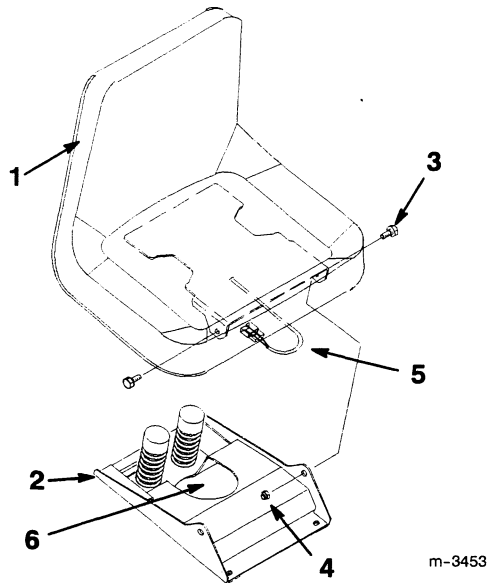

Figure 1
1. Mount the seat to the seat base using two 5/16" shoulder bolts and lock nuts (Fig. 1).
2. Insert the seat switch wire through the center opening in the seat base (Fig. 1).